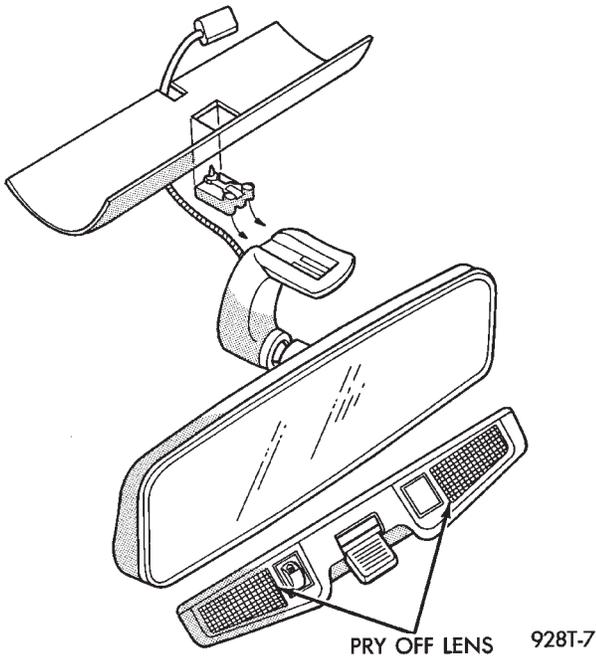

Fig. 20 Header Mirror/Reading Lamps
(1) Release locking tab on front side of mirror stay by pushing down. While holding tab down, pull mirror rearward to remove (Fig. 20).
(2) Remove visor center attaching clips.
(3) Remove header end caps.